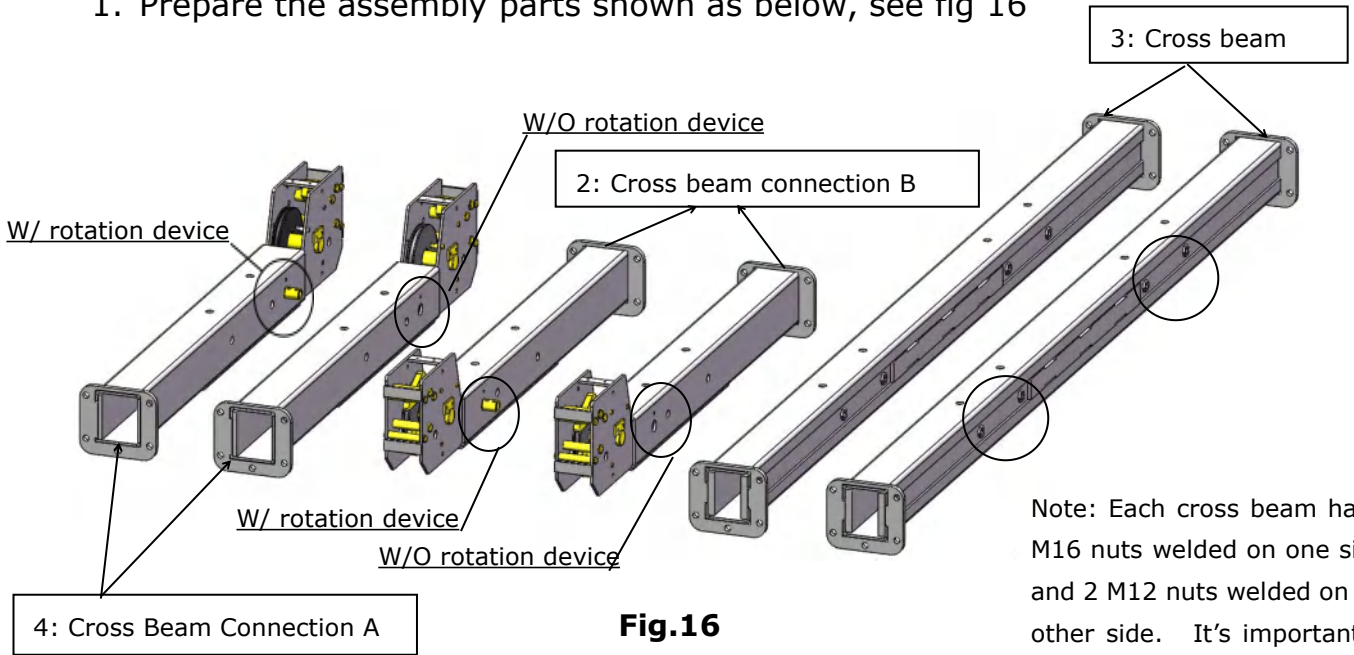

Fig.16
1. Prepare the assembly parts shown as below, see fig 16